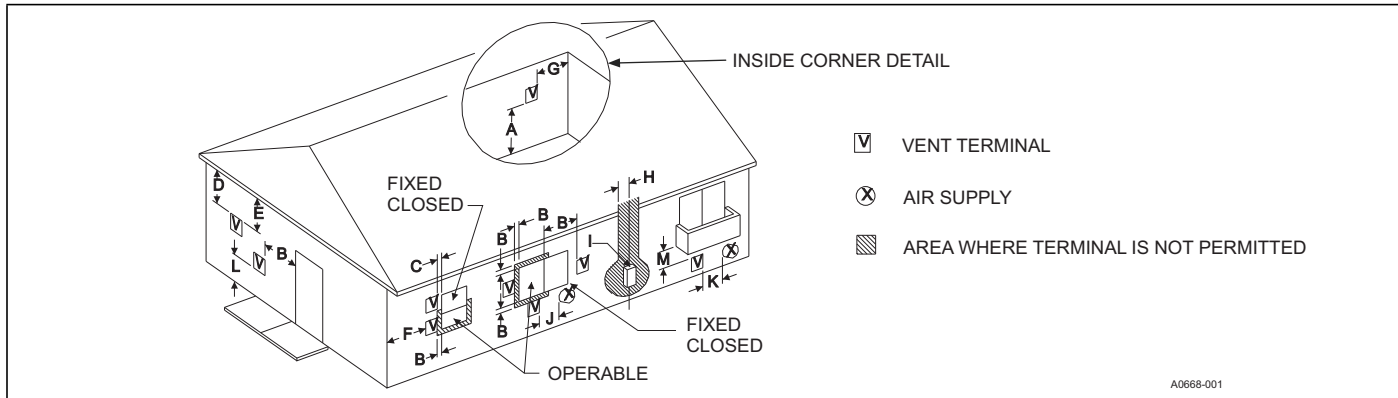
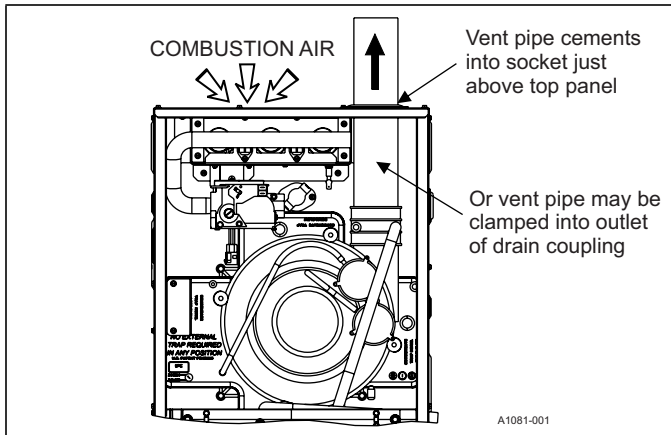

FIGURE 23: Home Layout
FIGURE 31: Combustion Airflow Path Through the Furnace Casing
- **AMBIENT COMBUSTION AIR:** Combustion air is supplied from the area surrounding the furnace through openings in the furnace casing. The combustion air and the vent pipes are not terminated in the same atmospheric zone. See Figure 23 for vent terminations. See the Ambient Combustion Air Supply section for proper installation. See Figure 31.